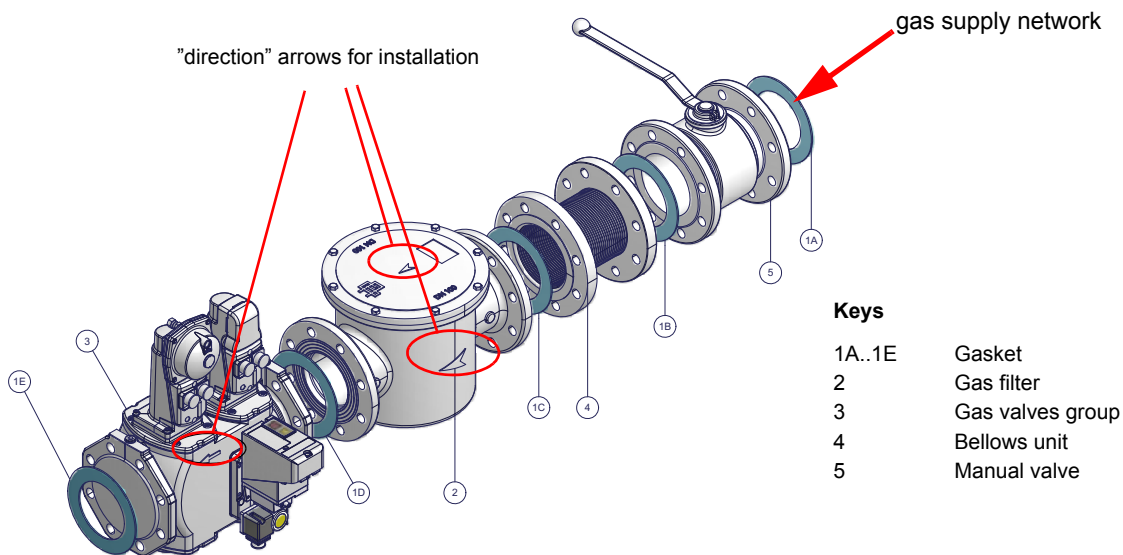

Fig. 4 - Example of gas train
- 1-b) in case of flanged joints: place a gasket (no. 1A..1E - Fig. 4) between the elements
ATTENTION: once the gas train is mounted according to the diagram on Fig. 4, the gas proving test must be performed, according to the procedure set by the laws in force.
ATTENTION: once the gas train is mounted according to the diagram on Fig. 4, the gas proving test mus be performed, according to the procedure set by the laws in force.